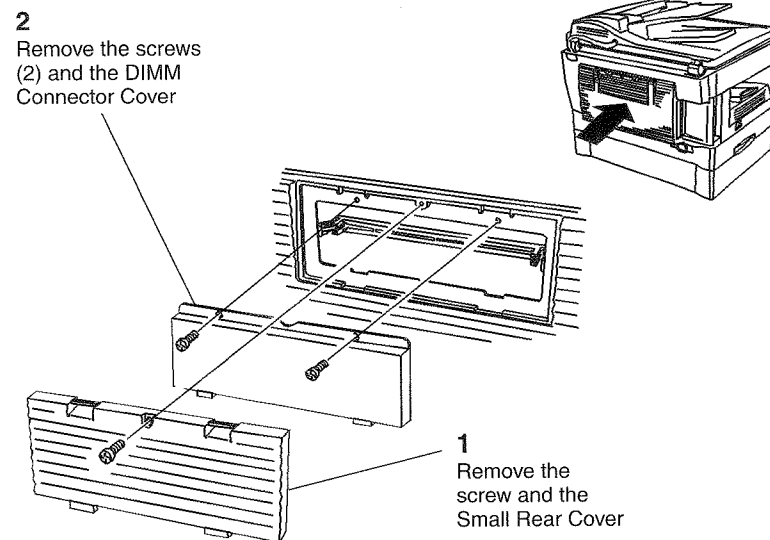

Figure 1 Preparing to install the EDO-DIMM
2. (Figure 1): Prepare to install the EDO-DIMM.